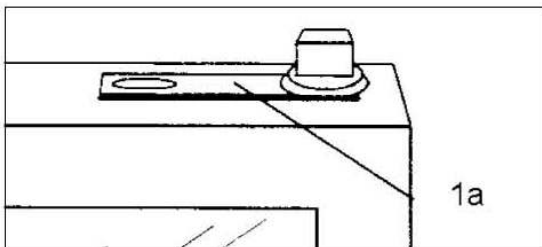

Fig. 1
1. Disconnect from power source. Open door and remove lock plate (1a, fig1).